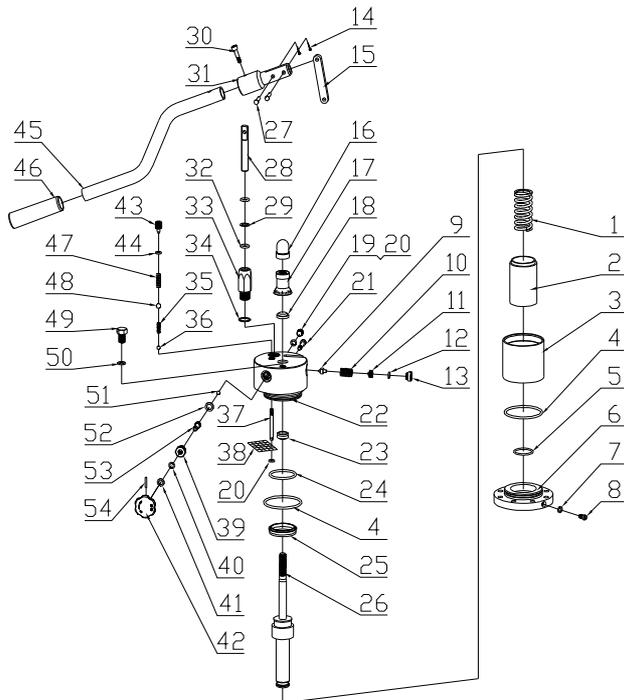

Fig.24
2. Oil pump parts form (Fig.24)